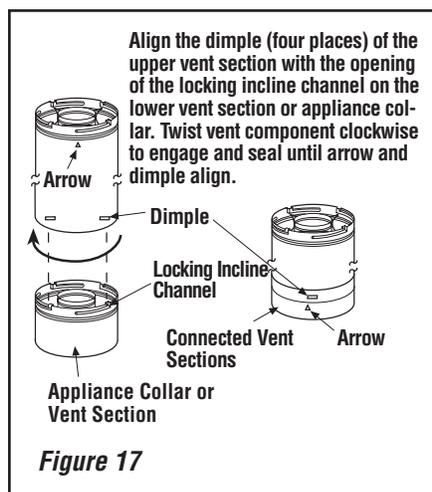

Figure 17
B. Attach vent components to appliance—Secure Vent® SV8 direct-vent system components are unitized concentric pipe components featuring positive twist lock connections (see **Figure 17**).
To attach a vent component to the appliance collar, align the dimpled end over the collar, adjusting the radial alignment until the four locking dimples are aligned with the inlet of the four inclined channels on the collar (refer to **Figure 17**). Push the vent component against the collar until it fully engages, then twist the component clockwise, running the dimples down and along the incline channels until they seat at the end of the channels. The unitized design of the **Secure Vent** components will engage and seal both the inner and outer pipe without the need for sealant or screws. If desired a #6 x 1/2" screw may be used at the joint, but it is not required as the pipe will securely lock when twisted.
Push the vent component against the previous section until it fully engages, then twist the component clockwise running the dimples down and along the incline channels until they seat at the end of the channels. **This seating position is indicated by the alignment of the arrow and dimple as shown in **Figure 17**.**
F. Change vent direction to horizontal/inclined run—At transition from or to a horizontal/inclined run, install the SV8E45C and SV8E90C corrugated elbows in the same manner as the straight vent sections. Fully engage the inner and outer unitized pipes at the bottom of the elbow. Rotate the elbow in the desired direction. **Note:** Three (3) holes are provided at the bottom of the elbows. Secure the elbow in place with a minimum of two (2) self tapping screws. The top of the elbow will connect to straight lengths of SV8 secure vent pipe by twist-locking the pieces together. See **Figure 17 on Page 16** and **Figure 19**.
Secure Vent SV8 direct-vent system components are unitized concentric pipe components featuring positive twist lock connection, (refer to **Figure 17 on Page 16**). All of the appliances covered in this document are fitted with collars having locking inclined channels. The dimpled end of the vent components fit over the appliance collar to create the positive twist lock connection.
C. Frame ceiling opening—If the vertical route is to penetrate a ceiling, use plumb line to locate the center above the appliance. Cut and/or frame an opening, 13" x 13" (330 mm x 330 mm) inside dimensions, about this center (refer to **Figure 17 on Page 16**).
E. Attach vent components to each other—Other vent sections may be added to the previously installed section in accordance with the requirements of the vent tables. To add another vent component to a length of vent run, align the dimpled end of the component over the inclined channel end of the previously installed section, adjusting the radial alignment until the four locking dimples are aligned with the inlets of the four incline channels of the previous section. Push the vent component against the previous section until it fully engages, then twist the component clockwise running the dimples down and along the incline channels until they seat at the end of the channels. **This seating position is indicated by the alignment of the arrow and dimple as shown in Figure 17 on Page 18.**
H. Change vent direction—At transition from or to a horizontal/inclined run, install the SV8E45 and SV8E90 elbows in the same manner as the straight vent sections. The elbows feature a twist section to allow them to be routed about the center axis of their initial collar section to align with the required direction of the next vent run element. **Twist elbow sections in a clockwise direction only so as to avoid the possibility of unlocking any of the previously connected vent sections (see Figure 17 on Page 18).**